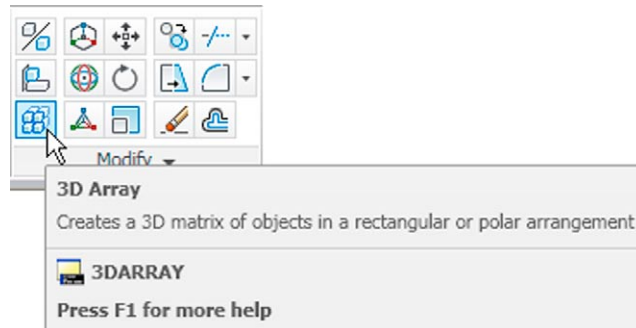

Fig. 14.11 Selecting 3D Array from the Home/Modify panel
2. Click on the **3D Array** in the **Home/Modify** panel (Fig. 14.11). The command line shows: